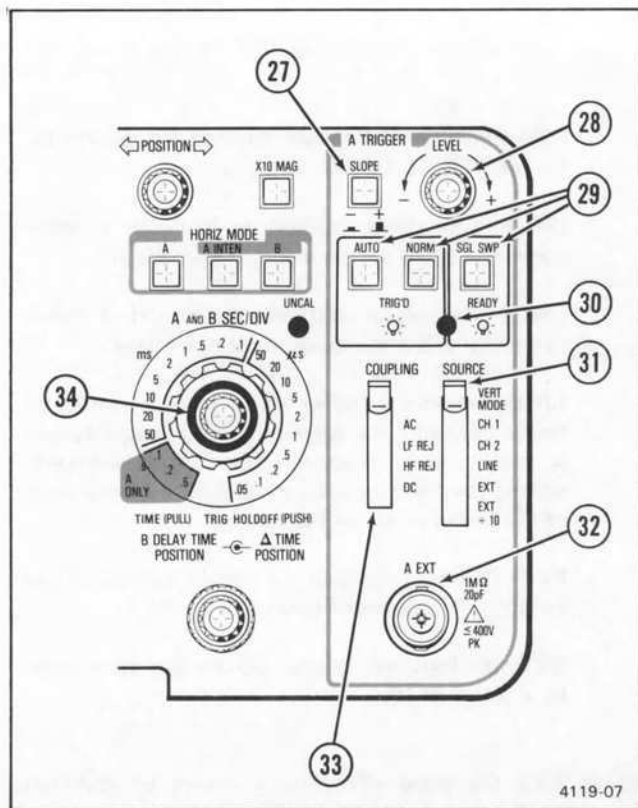

Figure 6. A TRIGGER controls, connector, and indicator.
Refer to Figure 6 for location of items 27 through 34.